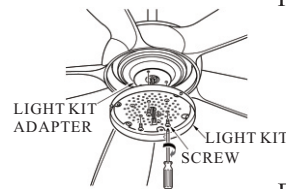

FIG.13
3. Gently pull the wires through light kit. Align the 3 round holes on light kit with 3 holes on light kit adapter.(see Fig. 13)